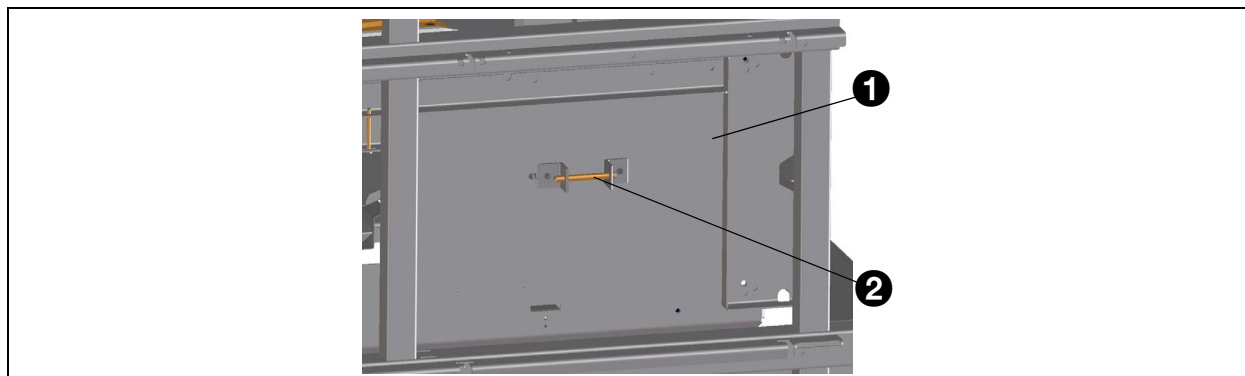

*Fig. 106 - Drive of the frame*
1. Adjust the chain tension of the drive of the frame with the chain tensioner (2). See fig. 106.